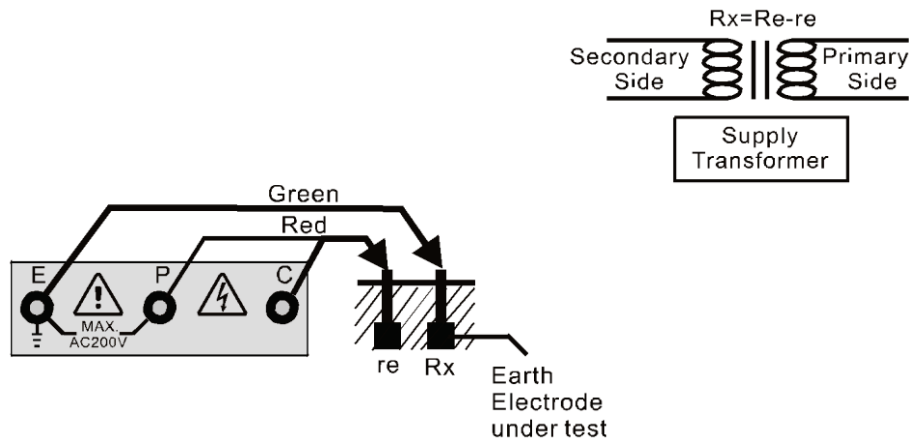

Fig. 2
- (1) This method is recommended where an earth resistance higher than 10W is measured or where it is not possible to drive auxiliary earth spikes. An approximate value of earth resistance can be obtained by the two-wire system as shown in Fig. 2.
- (2) Rotate the function switch to the "EARTH VOLTAGE" position and press to test. Make certain that earth voltage is less than 10V.
- (3) First rotate the function switch to "200W" position and press to test. Read earth resistance. If the display shows "1" (MSD), switch to "2000W" position and read earth resistance.
- (4) The reading obtained (Rx) is an approximate earth resistance value. There is no need for external shorting since P and C terminals are shorted by using